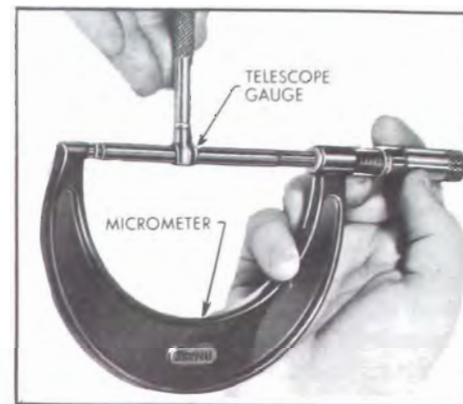

Figure 2-46—Measuring Telescope Gauge
2. Measure the telescope gauge. See Figure 2-46.